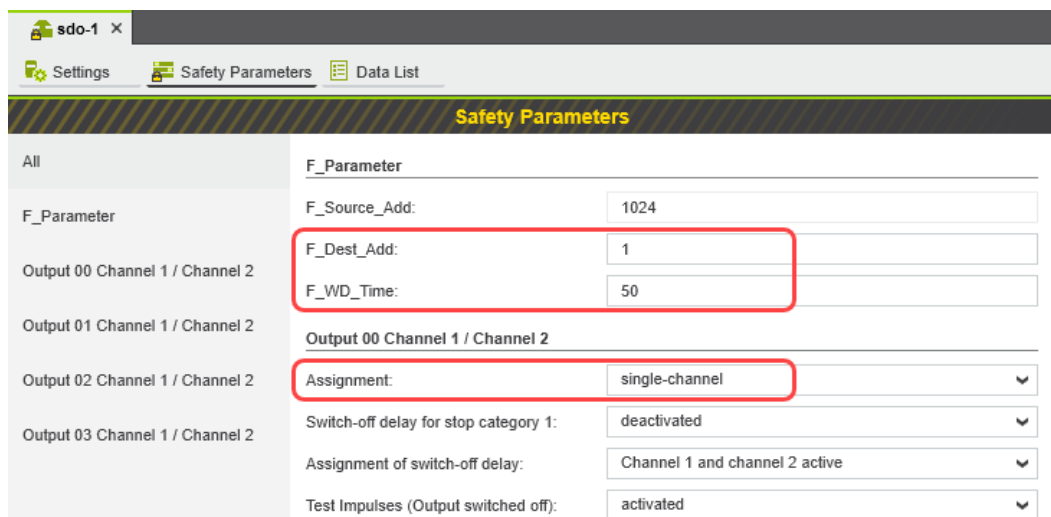
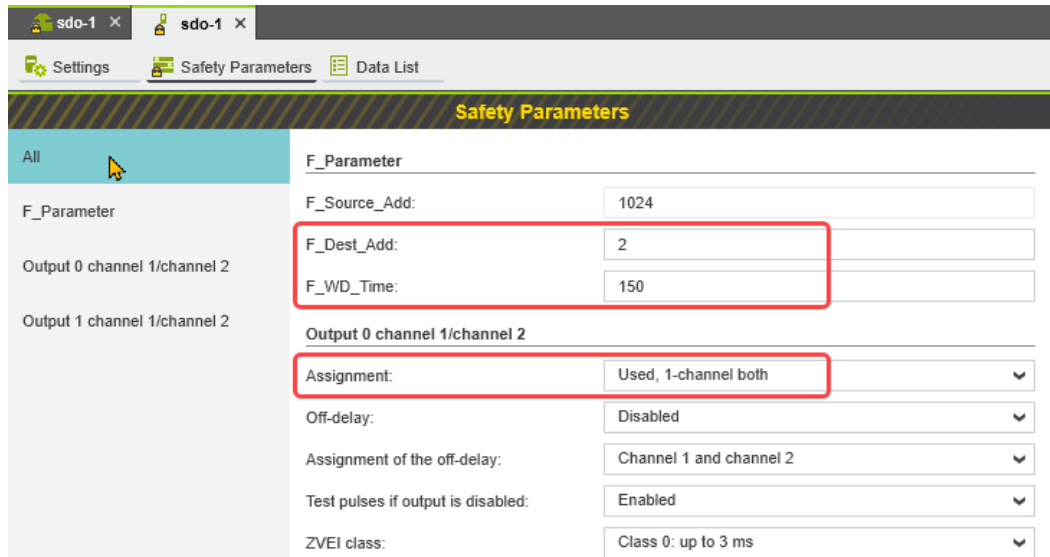
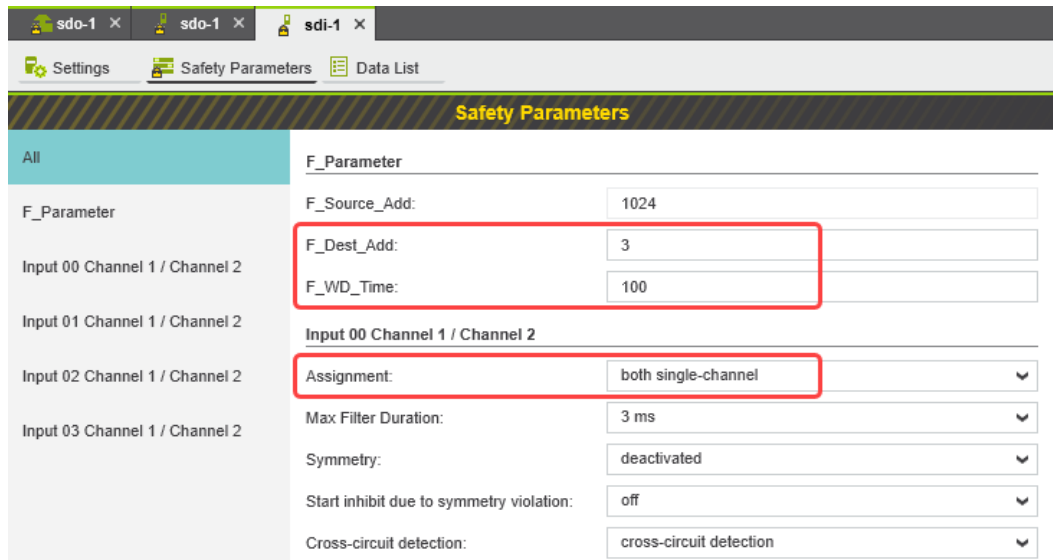

Figure 6-27 “Safety Parameters” editor: AXL F PSDO8/3 1F
Figure 6-28 “Safety Parameters” editor: AXL SE PSDO4/2 2A
Figure 6-29 “Safety Parameters” editor: AXL SE PSDI8/3
- Under the “Profinet (x)” node in the “PLANT” area, double-click on the lower-level node of the safety module whose safety parameters you want to set (in the example in Figure 6-27: AXL F PSDO8/3 1F).
- Under the “Profinet (x)” node in the “PLANT” area, double-click on the lower-level node of the safety module whose safety parameters you want to set (in the example in Figure 6-28: AXL SE PSDO4/2 2A).
- Under the “Profinet (x)” node in the “PLANT” area, double-click on the lower-level node of the safety module whose safety parameters you want to set (in the example in Figure 6-29: AXL SE PSDI8/3).
In the example in the figures 6-27, 6-28, and 6-29, these values are as follows:
| Figure   | <a href="#">Figure 6-27 on page 95</a> | <a href="#">Figure 6-28 on page 96</a>        | <a href="#">Figure 6-29 on page 97</a> |